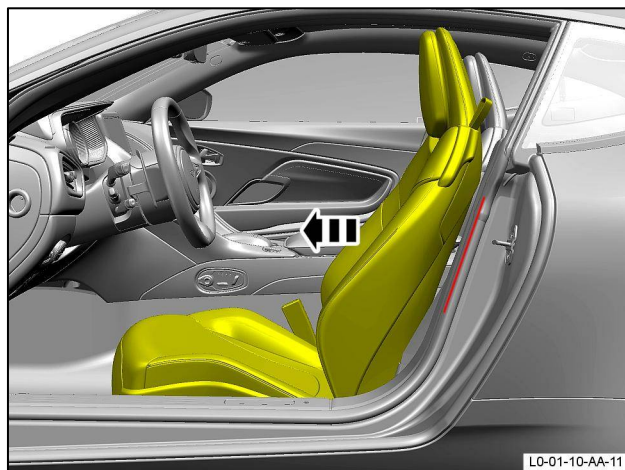

Figure 1
1. Operate the seat to its fully forward position (refer to Figure 1).